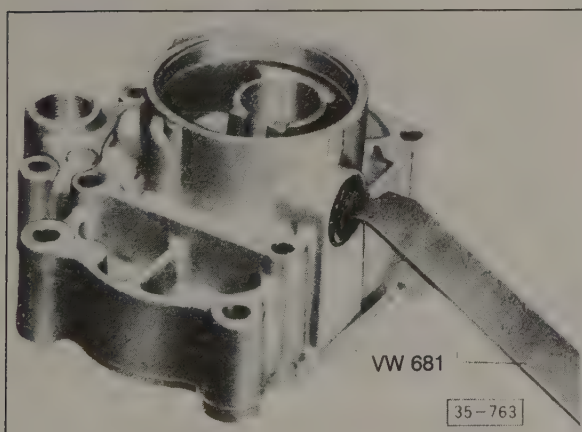
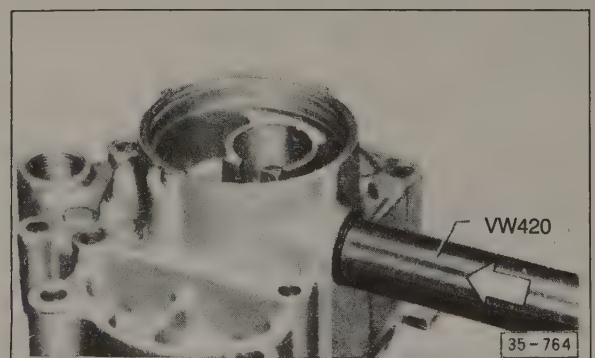

Fig. 6-11. Clutch release shaft oil seal being removed.
Fig. 6-12. Clutch release shaft oil seal being installed.
4. Remove the oil seal as indicated in Fig. 6-11. Drive in a new oil seal as shown in Fig. 6-12.